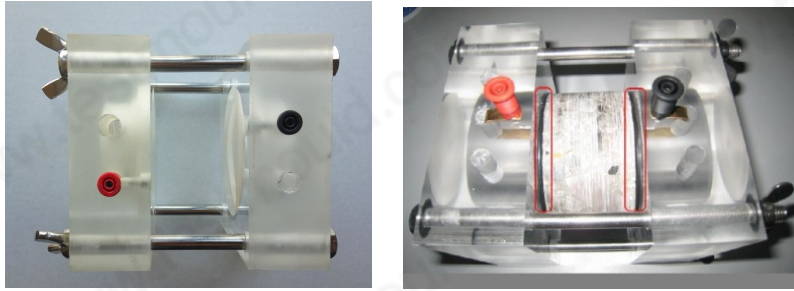

Figure 2-2
3. Put the concrete sample horizontally on the gasket ring, make the gasket ring and the edge of the sample tangent. Then put the other half fixture with gasket ring through four bolts fastening on the test block (Figure 2-2 on the left); tighten the nuts of the four bolt(Figure 2- 2), put it upright, and the testing could begin (Figure 2-2 on the right)